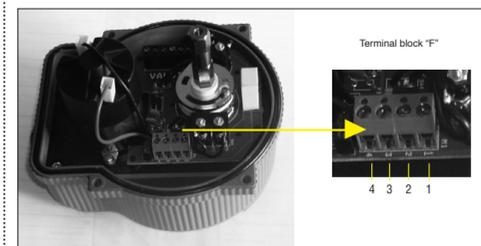

Fig.2 Plate for supply 12 and 24V AC/DC and particular of terminal block "F"
4.2 Electrical connection (fig. 2)